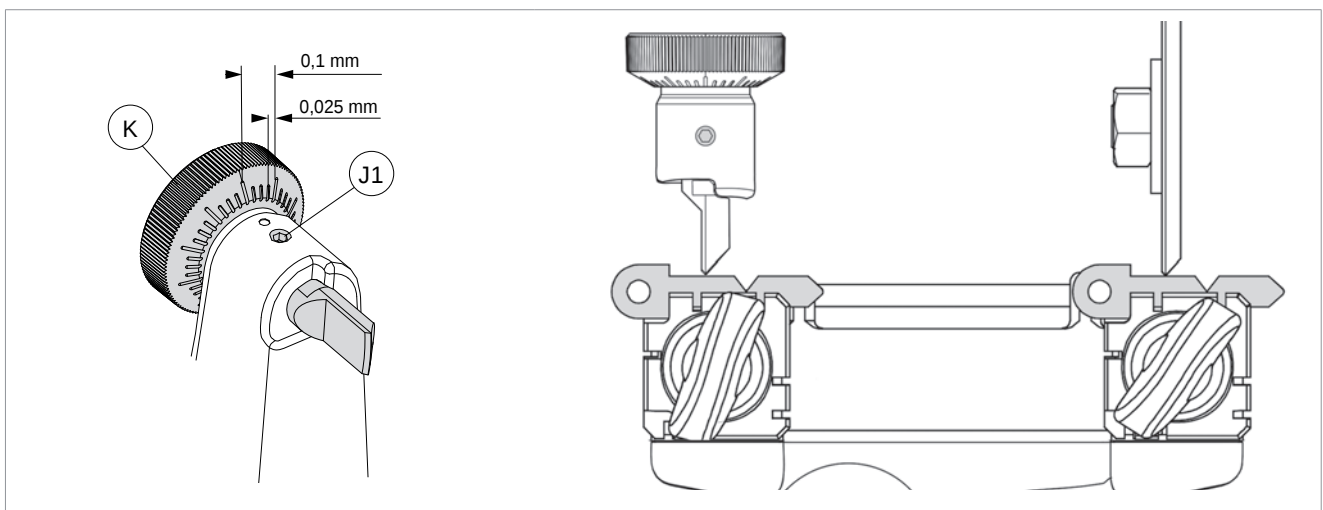

Fig. 17
- 6) Unlock the carriage with the lever (B) and move it towards the cutting tool.
- 7) Take the keys into contact with cutting tool and tracer point (Fig. 17).
NOTE: each notch on the centesimal ring corresponds to 0,025 mm (Fig. 17).